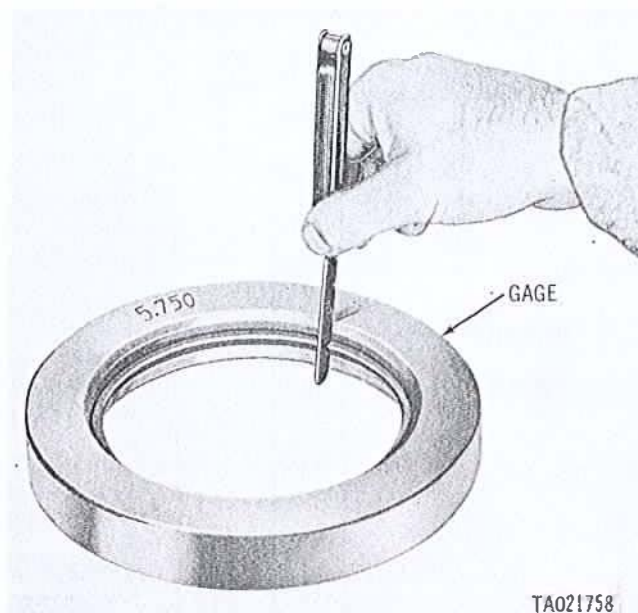

Figure 3-185. Measuring piston ring end gap using piston ring gage.
(3) Remove piston rings from piston ((1) above). Scrape carbon from end gap and measure end gap.
(4) Place rings in the specified ring gage (table 3-10) and measure end gap of oil rings as shown in figure 3-185). Replace rings not conforming to limits specified in the repair standards (table 3-11). Ring gages are identified according to ring size. Some gages are dual purpose tools, i.e., each side for a different size ring.